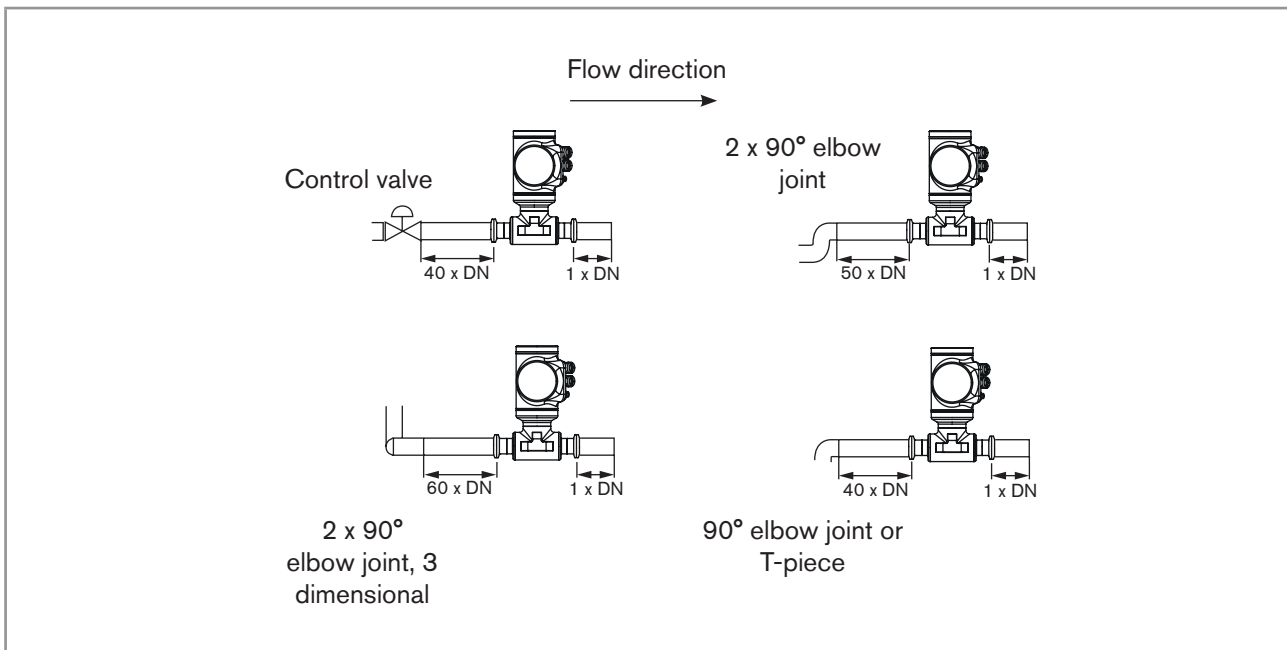

Fig. 13: Upstream and downstream straight distances for special pipe designs
- Install the device upstream a valve or any equipment that changes the pipe diameter or the pipe direction. If the recommendation cannot be complied with, install the device in the pipe in such a way that the straight downstream distances are satisfied depending on the design of the pipes, refer to standard ISO 9104:1991 and Fig. 13. If these recommendations cannot be complied with, contact Bürkert.